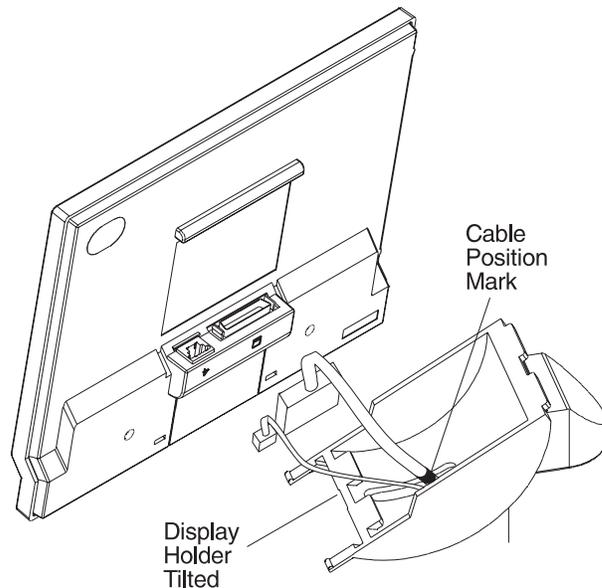

Figure 3-22. Display Holder Tilted Up
- 8 Tilt the display holder up and remove the cables through the center opening. See Figure 3-22.
- 7 Tilt the display holder to a position where you can remove the cables through the opening at the center. See Figure 3-22 on page 3-19.